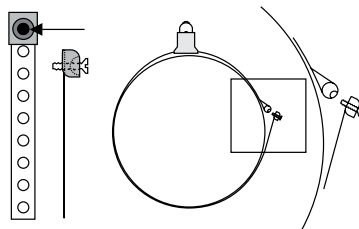

Figure 7
1. Connect switch to the cylinder as shown in Figure 7. Lightly tighten clamp only, so as to be able to adjust sensor position on cylinder.